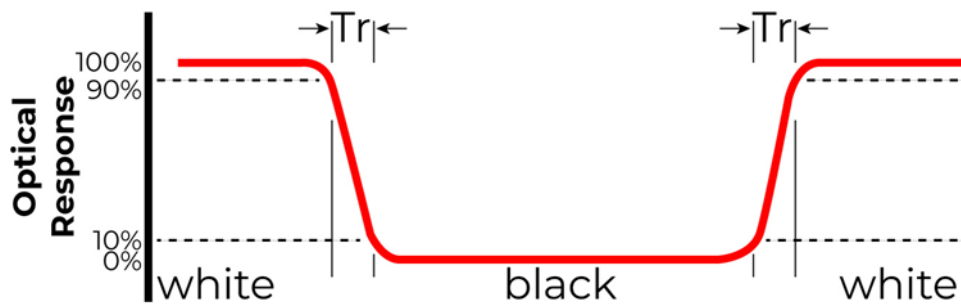

Figure 2. The definition of response time
**Note 4.** Response time is the time required for the display to transition from white to black (Rise Time,  $T_r$ ) and from black to white (Decay Time,  $T_f$ ). For additional information see Figure 2. The test equipment is BM-7A.